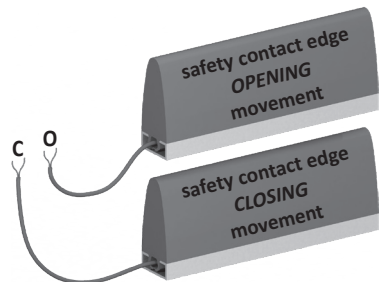

Figure 1: Connection at the coil core
7.1 Connecting to the coil core SPK 54 (figure 1)